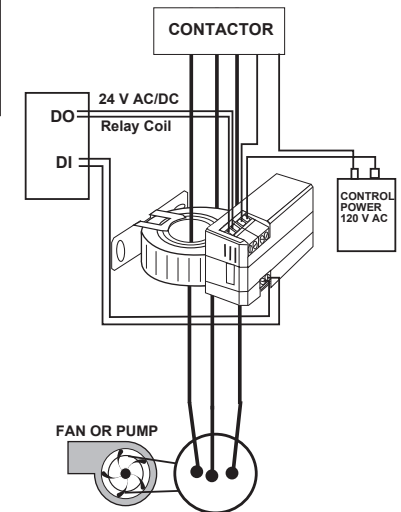

Figure 2: Model CSSGA2100R1
- Wire the CSS/Command Relay as shown in Figure 2.
- Reconnect the power to the conductor cable (see Figure 2).